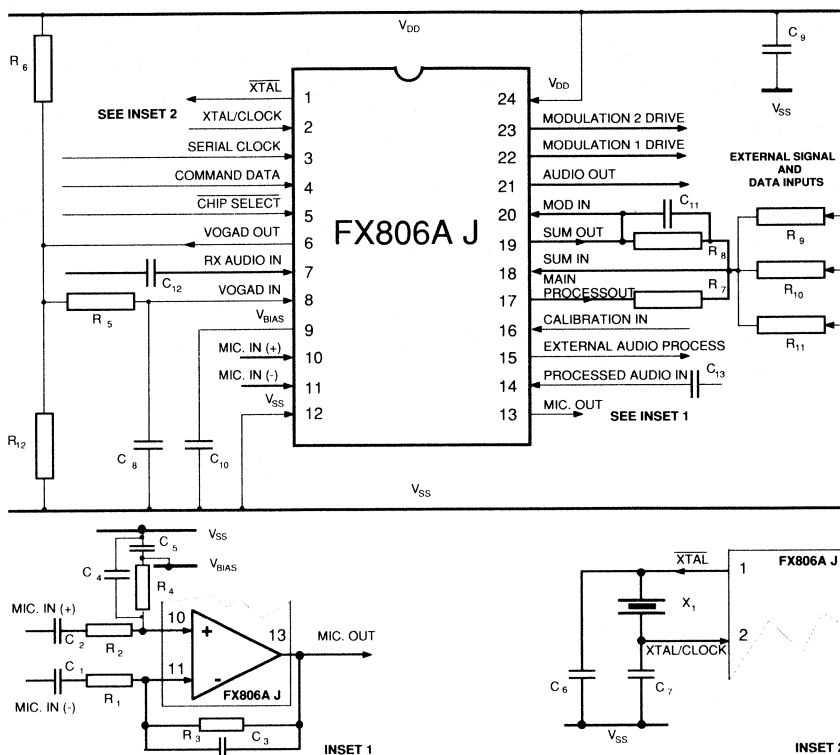

Fig. 2 Recommended External Components
6. With Input gain components set as recommended in Figure 2.
1	Xtal: The output of the on-chip clock oscillator. External components are required at this output when a Xtal circuit is employed. See Figure 2, INSET 2.
2	Xtal/clock: The input to the on-chip clock oscillator inverter. A Xtal or externally derived clock should be connected here. See Figure 2, INSET 2. This clock provides timing for on-chip elements, filters etc.
6	VOGAD Out: The output of the relevant VOGAD sensor. This output, with external attack and decay setting components, should be connected as in Figures 2 and 3, to the VOGAD In pin.
8	VOGAD In: The gain control signal from the selected VOGAD sensor (VOGAD Out) to the "Input Process" Voltage Controlled Amplifier. VOGAD operation is enabled via a Mode Command (Bit5). Individual sensors, automatically selected, permit gain control from either the Input Process or an external process. External attack and decay setting components should be applied as recommended in Figures 2 and 3.
9	VBIAS: The output of the on-chip analogue circuitry bias system, held internally at $V_{DD}/2$ . This pin should be decoupled to $V_{SS}$ by a capacitor $C_{10}$ . See Figure 2.
10	Mic In (+): The non-inverting input to the microphone Op-Amp. This input requires external components for Op-Amp gain/attenuation setting as shown in Figure 2, INSET 1.
11	Mic In (-): The inverting input to the microphone Op-Amp. This input requires external components for Op-Amp gain/attenuation setting as shown in Figure 2, INSET 1.
13	<p>Mic Out: The output of the microphone Op-Amp, used with the Mic In (–) input to provide the required gain/attenuation using external components as shown in Figure 2. The external components shown are to assist in the use of this amplifier with either inverting or non-inverting inputs. During Powersave (Volume Command) this output is placed at <math>V_{SS}</math>.</p>
17	<p>Main Process Out: The output of the Main Process stage. This output is summed with additional system inputs as required (Audio, Sub-Audio Signalling, FFSK – See System Overview) in the on-chip Modulation Summing Amplifier. External components as shown in Figure 2 should be used as required.</p>
18	<p>Sum In: The input and output terminals of the on-chip Modulation Summing Amplifier. External components are required for input signals, with gain/attenuation setting as shown in Figure 2. For single-signal, no-gain requirements, Main Process Out may be linked directly to Modulation In.</p>
### VOGAD Components Calculations – Figures 2 and 3